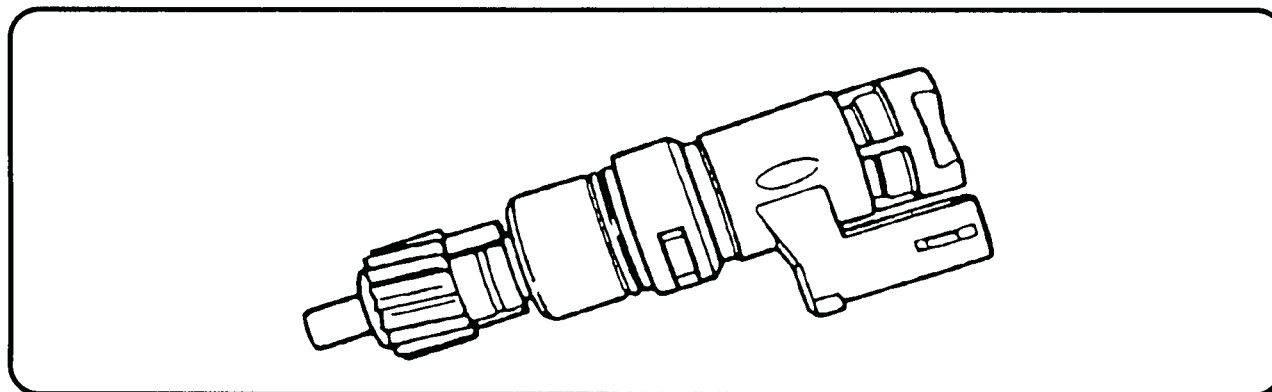

Figure 28
The ECA processor is not capable of putting this transmission into a fail safe or a limp-in mode if it detects an electrical problem. It will however, cause the transmission to malfunction and store a service code which can be retrieved with a scanner. The diagnostic connector the scanner uses is located under the hood. If a scanner is not available, this diagnostic connector can be jumped to flash the service codes (refer to page 24 and figure 18 for assistance in jumping the diagnostic connector). There are two digit codes for 89 to 90 vehicles and three digit codes for 91 and up. Figures 28 through 37 provide a description of each input, its function, the symptoms that can be caused, and the service codes it can produce. Page 40 provides a quick overview of all service codes. **NOTE:** If the transmission comes into your shop stuck in 4th gear and the overdrive light stays on, the power relay for the processor is probably bad. The power relay usually clips onto the driver side fender well. Refer to your local dealer for the part number.
**Description:** The vehicle speed sensor is a variable reluctance sensor that sends a signal to the processor assembly. This VSS signal tells the processor assembly the vehicle speed in MPH (Figure 28).